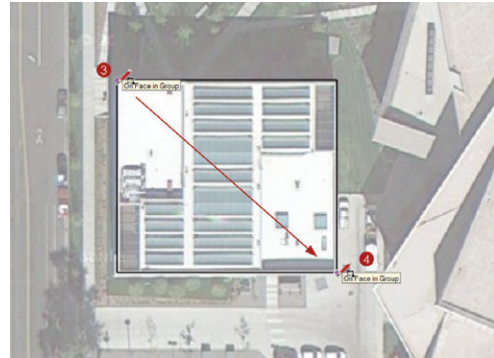

Figure 16.7 Use the Rectangle tool to trace the building footprint.
4. Move your cursor away from the start point and click again on the bottom-right corner of the building footprint to finish the rectangle (Figure 16.7). There is no need for precise dimensions on this geo-model.